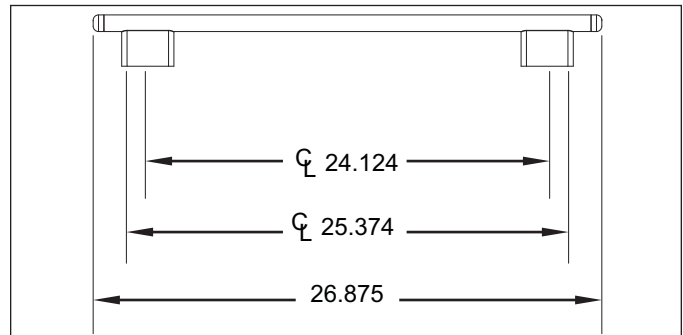

Figure 3. 3/4" Framed Handle Dimensions
1. Mark custom panel to locate the drill holes using the center-line dimensions from Figures 3 or 4. Drill four (4) 7/32" to 1/4" holes.